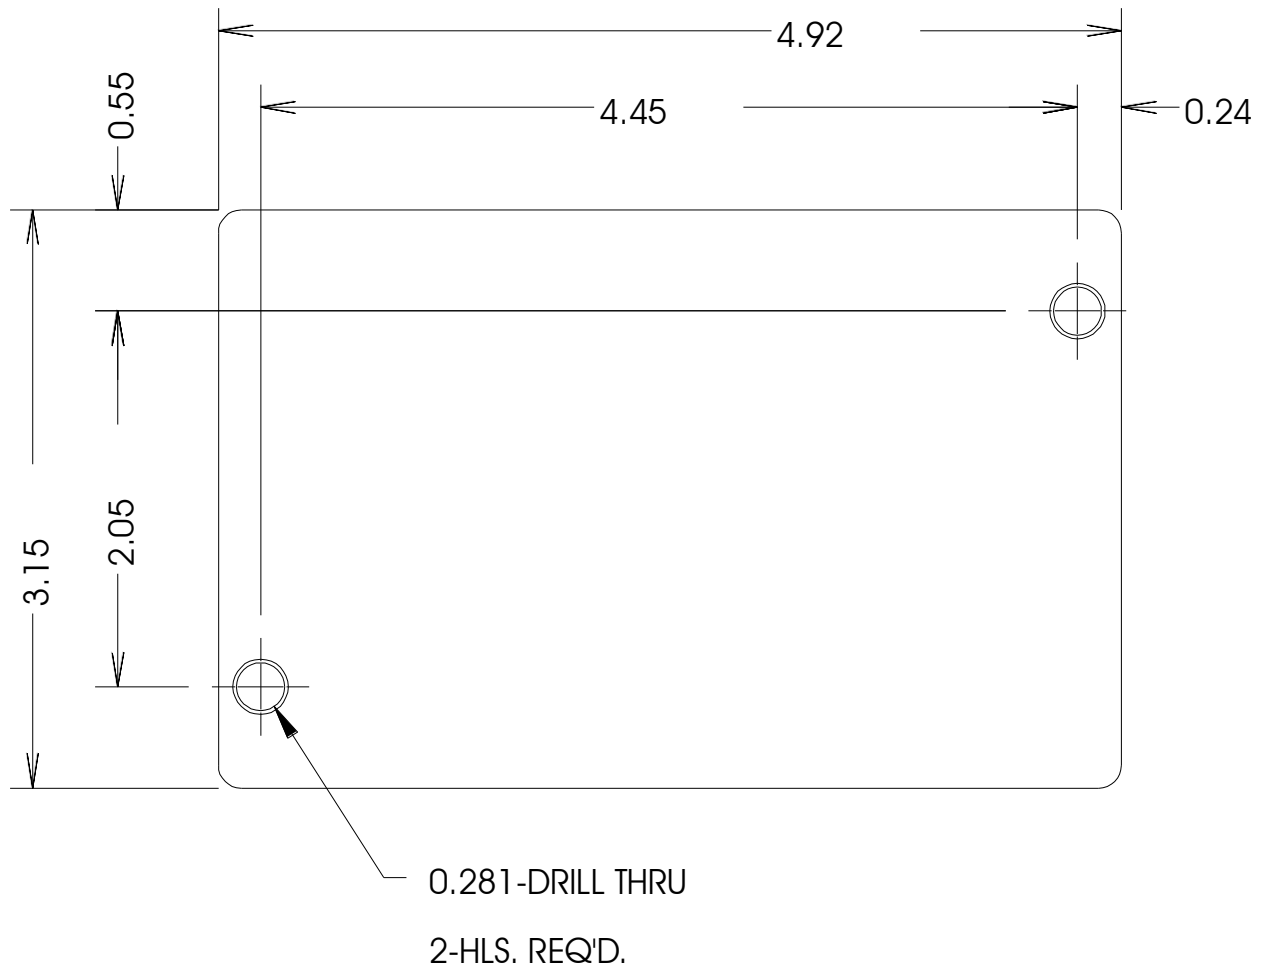

Figure 16
- Mark mounting holes on panel or bracket per dimensions in Figure 16.